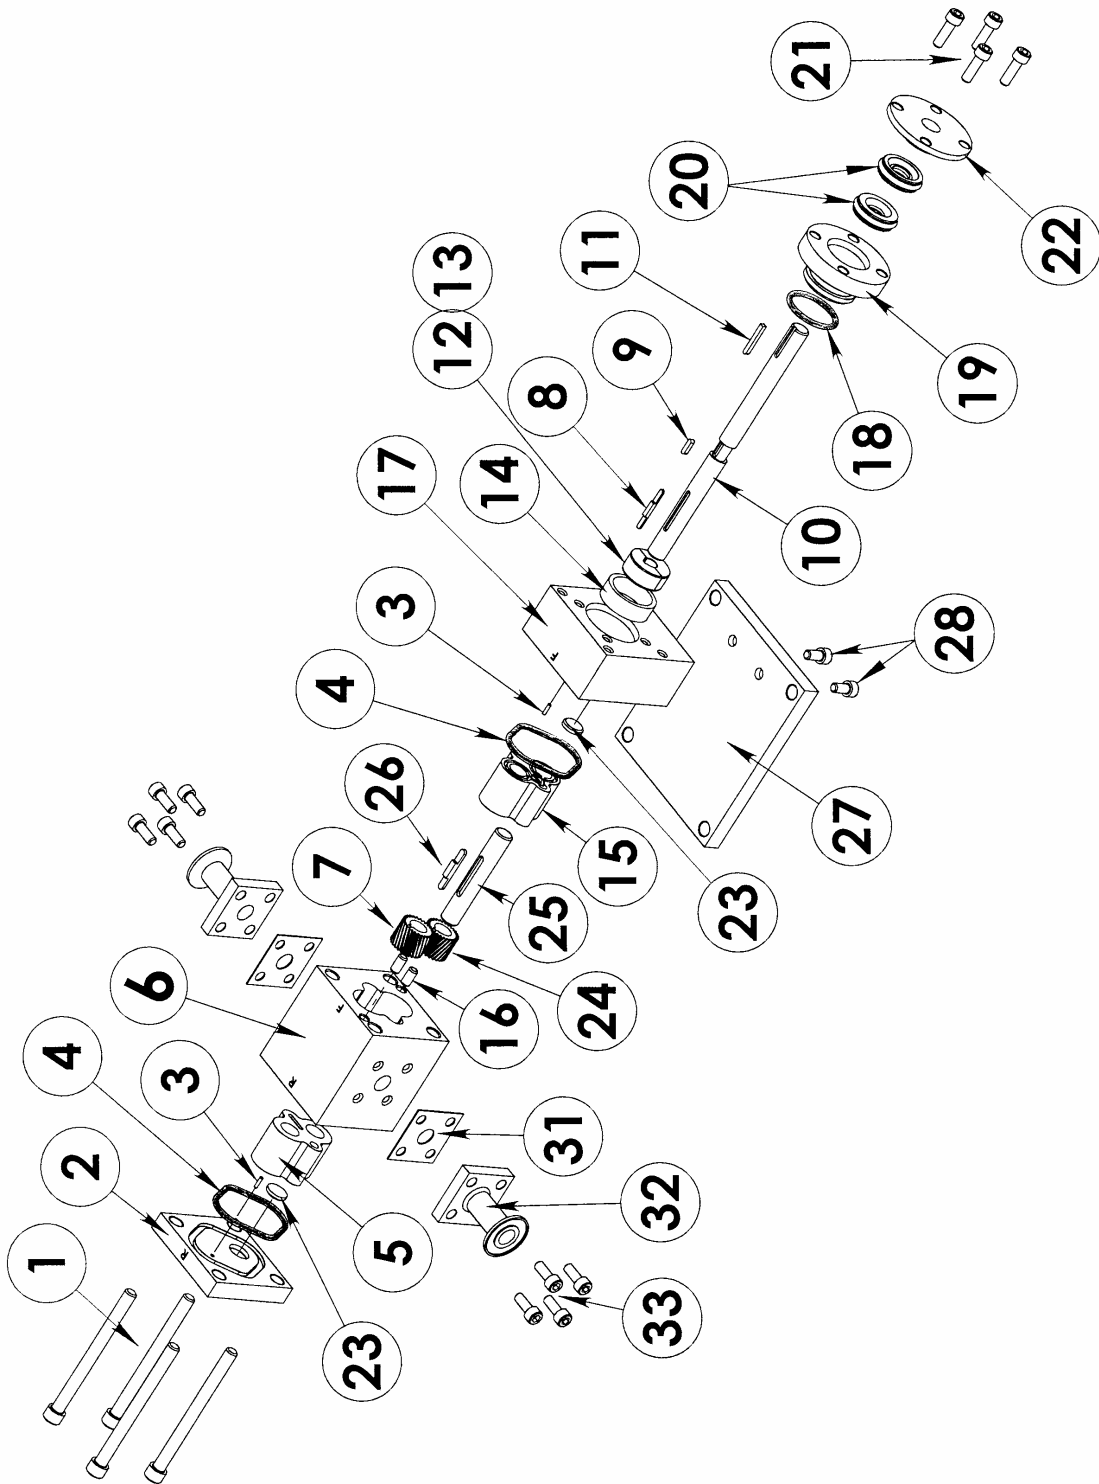

Figure 1
1. Install the drive shaft end key (11) into the drive shaft (10) keyway.
6. Install the suction and discharge port adapters (32), Figure 1, to the pump body with cap screws (33), Figure 1. A Teflon® gasket (31), Figure 1, is used to seal each adapter to the pump body. **DO NOT OVERTIGHTEN THE CAP SCREWS**.